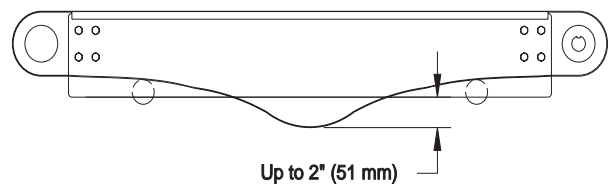

Figure 24
7. Check belt sag by measuring from the bottom of conveyor frame (Figure 24). Belt sag should not exceed 2" (51 mm).